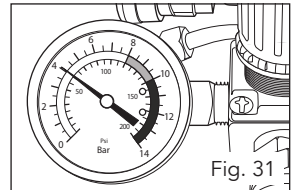

Fig. 31
1. Ensure that you check that the safety valve (11) is in working order every day that the unit is in operation. To check the valve, first pressurise the tank to close to maximum pressure (Fig. 31).